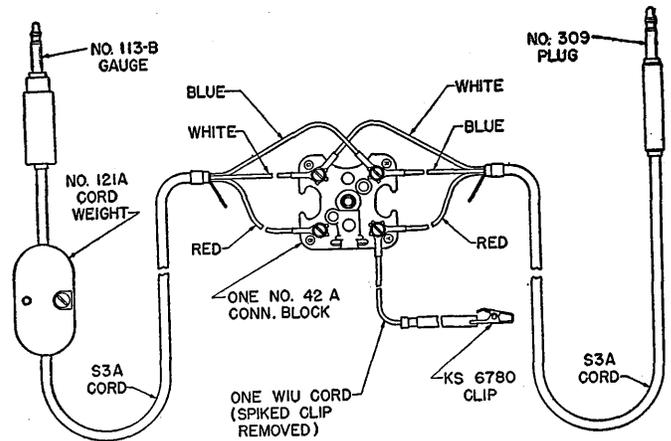

FIG. 1
**Test (E)**
2.05 Test cord assembly, fig. 1 (To be made up locally).